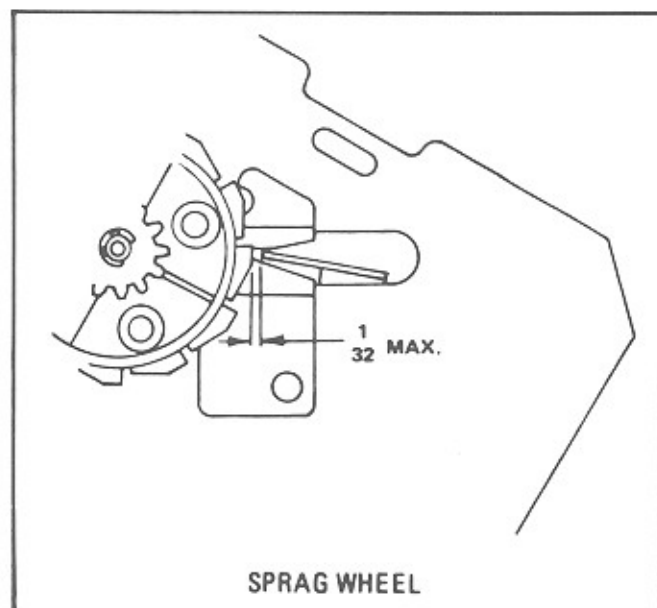

Figure 3-8. Sprag Wheel
2. Rotate the record magazine and note the clearance between the sprag lever and the sprag wheel located on the backside of the sprag plate assembly. The sprag lever must not touch the sprag wheel and the clearance must not be greater than 1/32 inch (See Figure 3-8.). It will be necessary to remove the sprag assembly if corrections are required.